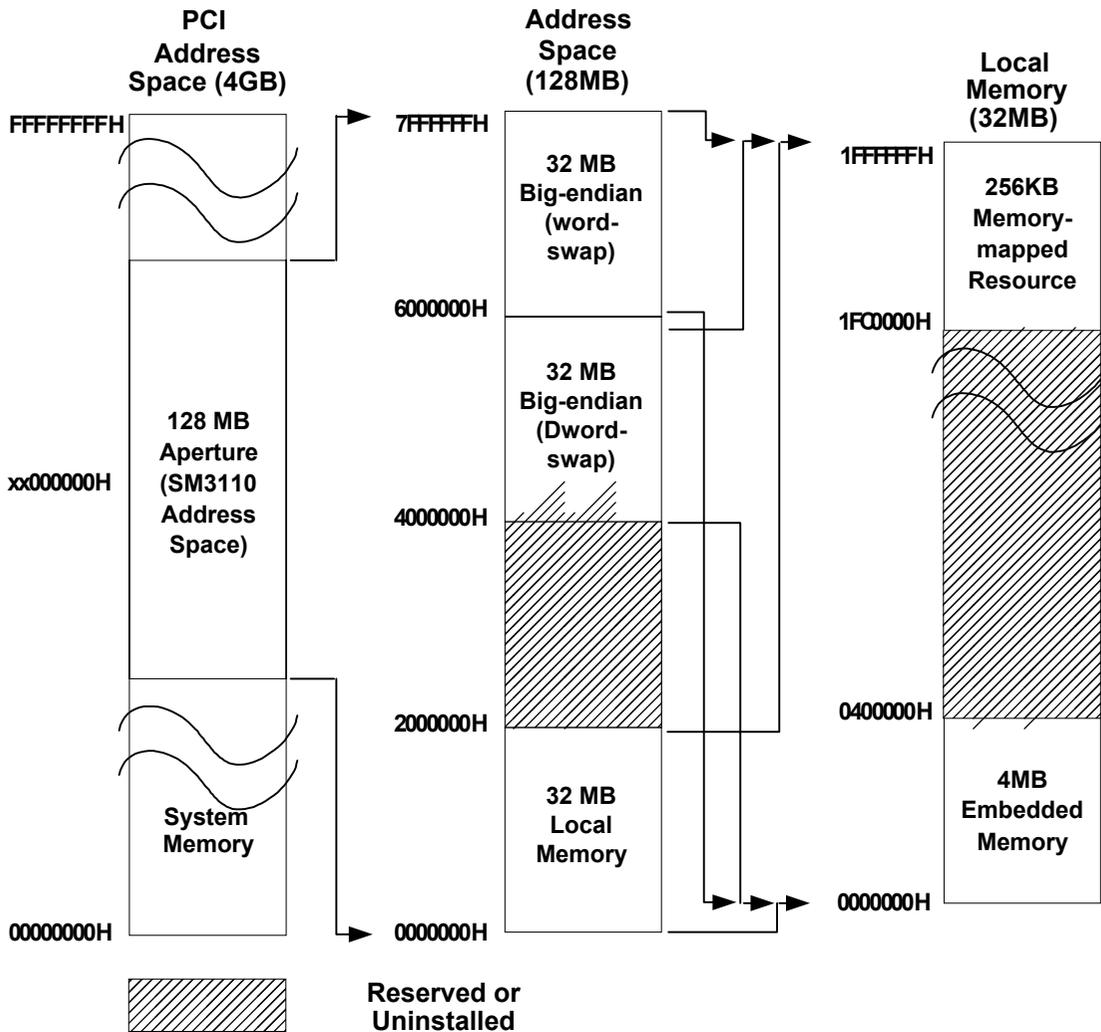

Figure 6-1. SM3110 Address Space Allocation
The term "local memory" refers to the 32MB linear address space within which the SM3110 maps all of its available embedded memory, as well as its internal registers and memory-mappings of VGA and PCI registers. In order to support all variations of little-endian/big-endian and word/double word byte-swapping architectures, the SM3110 requires a total address space of 128MB (out of the 4GB available) address space. The four(4) individual 32MB address spaces are multiply-mapped to the one 32MB local memory area required. This is shown in Figure 6-1.
Also shown in Figure 6-1 is a further division of the 32MB local memory addresses into two areas: